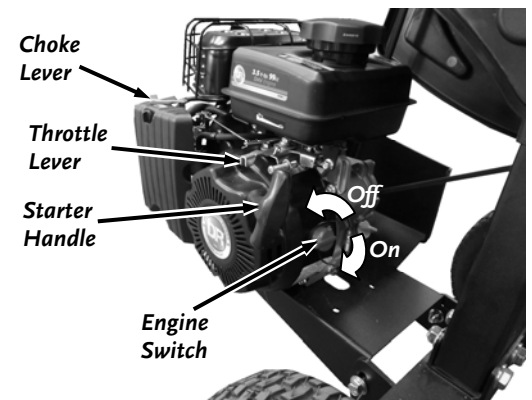

Figure 21
2. Move the choke control lever to the CHOKE position to the right (should only be needed if the engine is cold) (**Figure 21**).
1. Move the Throttle Lever to Idle “Turtle” position ((**Figure 21**)).